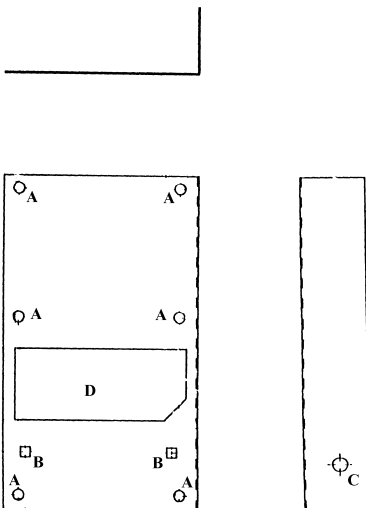

Figure 6
3. Place template over coin insert area using the square holes (B) to secure the template in position at the square holes in the door that secure the T-handle.
4. Drill 5/16" holes at all positions marked "A". See figure 6.
5. Scribe or mark the hole "D" shown in figure 6.
6. Scribe or mark the hole "C" shown in figure 6.